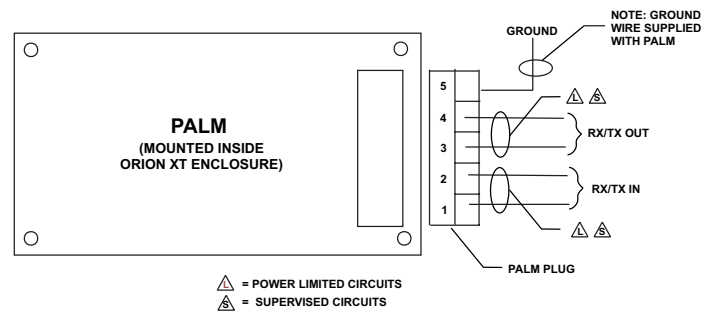

Figure 4-8. PEGAsys Addressable Loop Module Wiring Diagram
9. Connect terminals 1 and 2 on the PALM plug to the SLC wiring from the preceding SmartOne device or ARIES/PEGAsys SLC module, if first device on the SLC loop (see Figure 4-8).